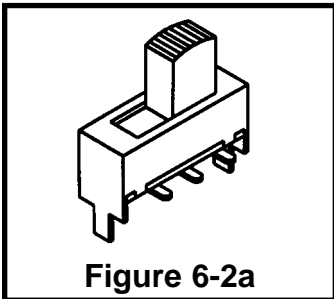
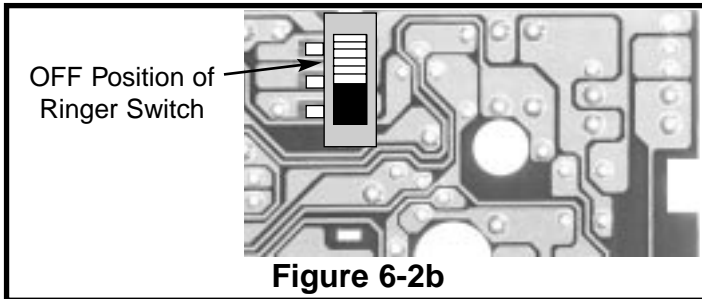

Figure 6-2a
Figure 6-2b
- Identify the ringer switch as shown in Figure 6-2a. The ringer switch is mounted on the copper side of the PC board. Insert the switch tabs into the holes provided and solder the three terminals as shown in Figure 6-2b. Be sure that the switch is perpendicular to the PC board.
1. Set the ringer switch to the OFF position (refer to Figure 6-2b).